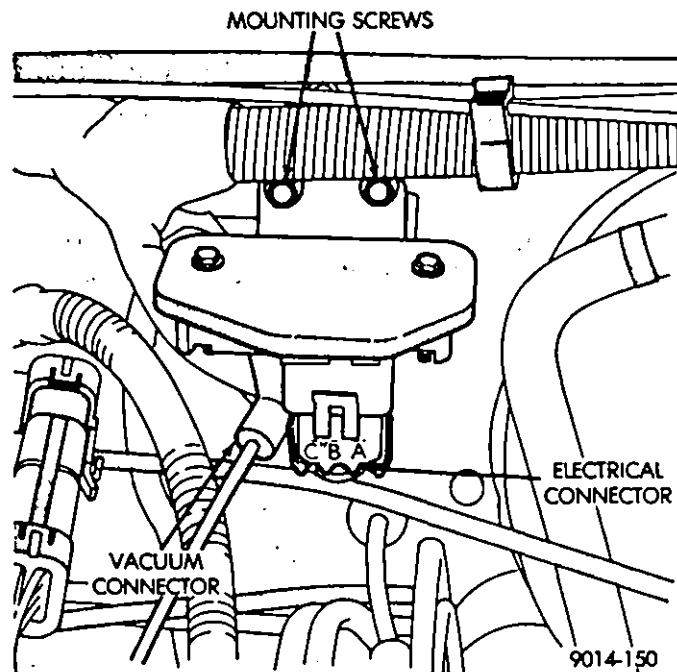

Fig. 7—MAP Sensor Removal/Installation
The Manifold Absolute Pressure (MAP) Sensor is located on the dash panel, next to the Brake Power Booster (Fig. 7).
- (1) Disconnect electrical connector from MAP sensor (Fig. 7).
- (2) Disconnect vacuum hose from MAP sensor.
- (3) Remove MAP sensor mounting screws.
- (4) Remove MAP sensor.